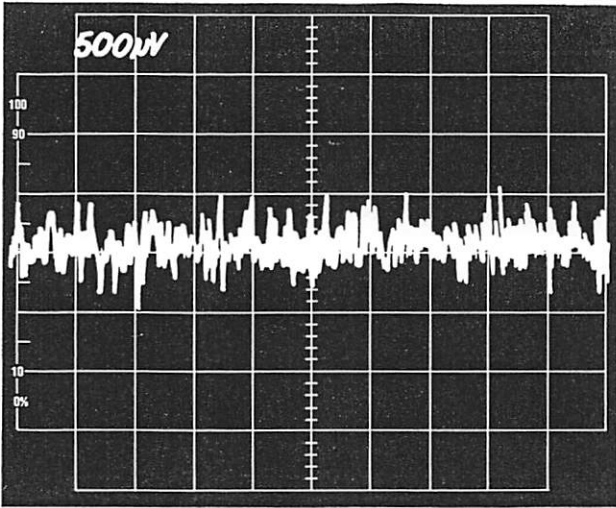

Figure 9. Voltage Noise, 0.1Hz to 10Hz, G = 1000
**Gain Nonlinearity and Noise:** Gain Nonlinearity is specified as a percent of full-scale output, and for the 1B32 it is ±0.005% max over the full span. The chopper design also offers exceptional low-noise performance, with typical input noise of 1µV p-p in the 0.1Hz to 10Hz bandwidth (Figure 9).